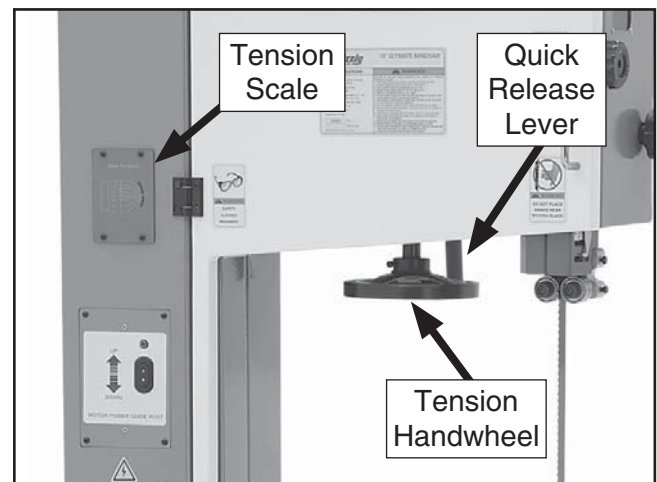

Figure 11. Blade tension controls.
3. Move the blade tension quick release lever all the way right (as viewed from the rear of the machine) to apply tension to the blade (see **Figure 11**).